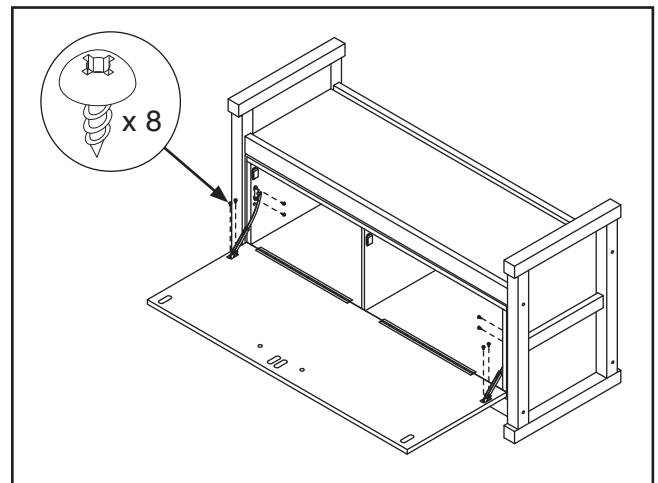

Figure 10. Attaching cabinet limiters.
8. Position left door support on left side of cabinet and fasten to cabinet side and front panels using (4) M4 x 12 tap screws, as shown in **Figure 10**.